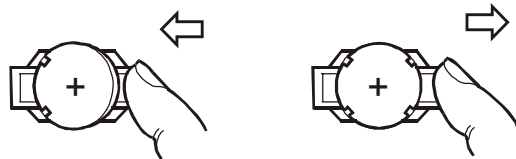

Figure 6
8. Follow the guidelines in Figure 6, and remove the old battery, replacing it with a new one of the identical type.